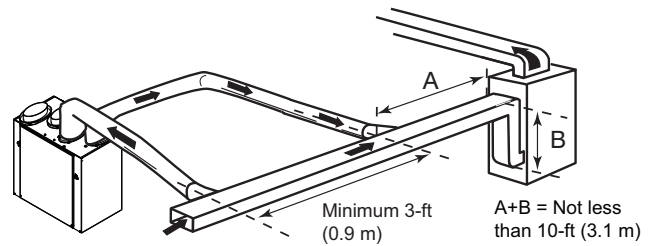

Fig. 14 - Method 2: Return-return connection
- Same instructions as for Method 1 or Method 2. For Method 2 (Return-return), make sure there is a distance of at least 3-ft (0.9 m) between the 2 connections to the furnace/air handler. See Fig. 14.